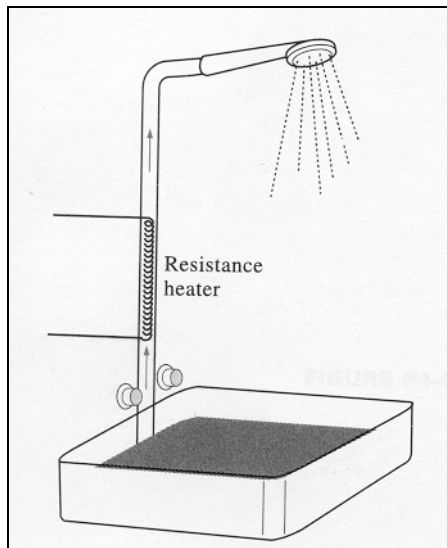

Fig. 1
1. Water flows through a shower head steadily at a rate of 10 L/min (Fig. 1). An electric resistance heater placed in the water pipe heats the water from 16 °C to 43 °C. Taking the density of water to be 1 kg/L, determine the electric power input to the heater, in kW.